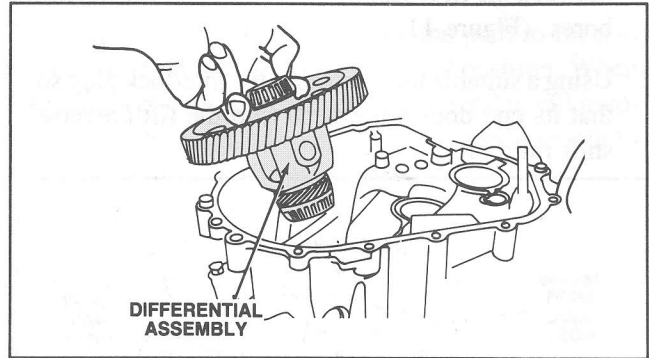

Figure 110 Differential Installation
1. Install the differential assembly in the clutch housing with the speedometer gear facing the clutch housing. (Figure 110).